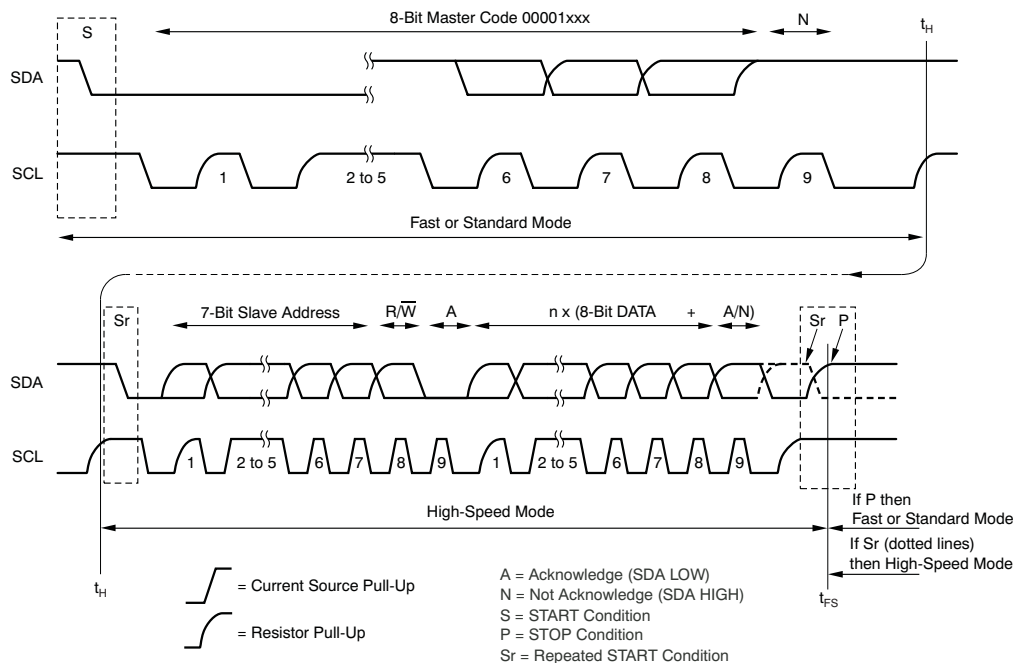

Figure 30. Complete High-Speed Mode Transfer
When the bus master sends the address byte with the $\overline{\text{R/W}}$ bit = 0, and the TSC2017 sends an acknowledge, the pen-interrupt function is disabled. If the command that follows the address byte contains $\text{PD0} = 0$, then the pen-interrupt function is enabled at the end of a conversion. This action is approximately 100 μs (12-bit mode) or 50 μs (8-bit mode) after the TSC2017 receives a STOP/START condition, following the receipt of a command byte (see Figure 31 and Figure 30 for further details about when the conversion cycle begins).
1. START condition (S)
3. Not-acknowledge bit (N)
Figure 30 shows this sequence in more detail. Hs-mode master codes are reserved 8-bit codes used only for triggering Hs mode, and are not to be used for slave addressing or any other purpose. The master code indicates to other devices that an Hs-mode transfer is about to begin and the connected devices must meet the Hs mode specification. Because no device is allowed to acknowledge the master code, the master code is followed by a not-acknowledge bit (N).
After the not-acknowledge bit (N) and SCL have been pulled-up to a HIGH level, the master switches to Hs-mode and enables the current-source pull-up circuit for SCL (at time t_{H1} shown in Figure 30). Because other devices can delay the serial transfer before t_{H1} by stretching the LOW period of SCL, the master enables the current-source pull-up circuit when all devices have released SCL, and SCL has reached a HIGH level, thus speeding up the last part of the rise time of the SCL.